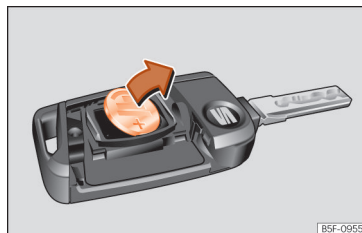

Fig. 89 Vehicle key: removing the battery.
- Extract the battery from the compartment using a suitable thin object »» Fig. 89.
- Place the new battery in the compartment as shown »» Fig. 89, pressing in the opposite direction to that shown by the arrow »» ❷.